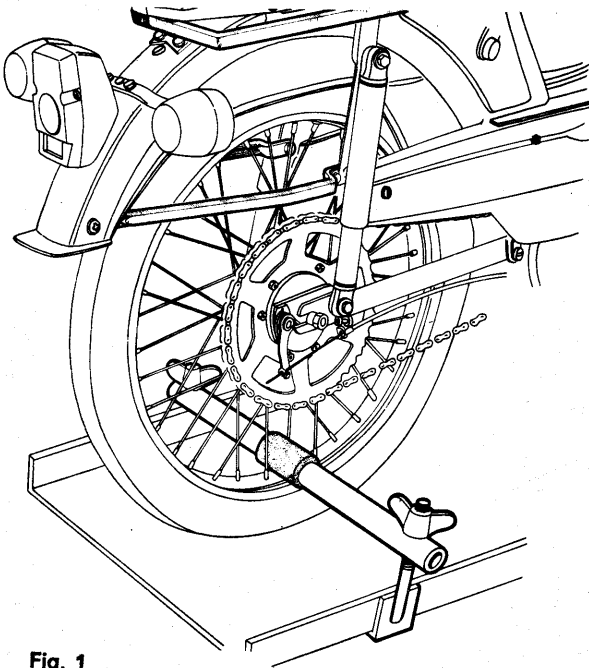

Fig. 1
- For all operations on the front fork, fasten the rear wheel (the front wheel will clear the ground) with a clamp similar to that shown in fig. 1.